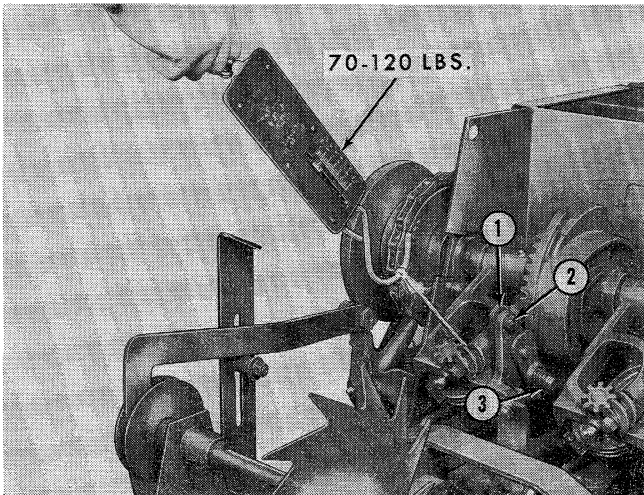
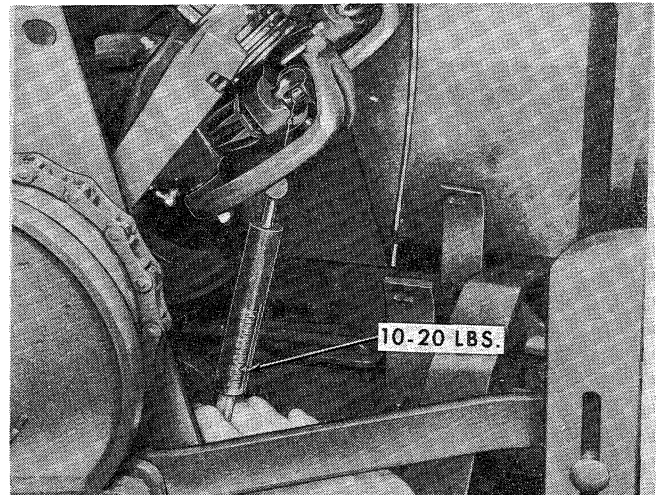

Figure 69
Figure 73
Tension is correct when 70–120 lbs. parallel pull is required to pull the twine out of the twine disc. See Figure 69.
Adjust the bill hook tongue by either tightening or loosening the lock nut (3), Figure 69, 1/4 turn at a time until a tension of 10 to 20 lbs. on the bill hook will separate the jaws 1/8", Figure 73.